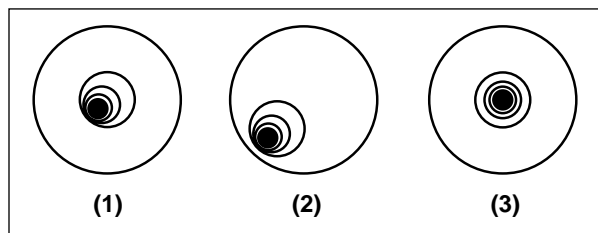

Fig. 21: Defocused star images.
- a. The only adjustments possible, or necessary, on the LX90 are from the three screws (**Fig. 21**) located at the edge of the outer surface of the secondary mirror housing.
- b. While looking at the defocused star image, notice which direction the darker shadow is offset in the ring of light or notice which part of the ring is the thinnest (**1, Fig. 21**). Place your index finger in front of the telescope so that it touches one of the collimation set screws. You will see the shadow of your finger in the ring of light. Move your finger around the edge of the black plastic secondary mirror support until you see the shadow of the finger crossing the thinnest part of the ring of light. At this point, look at the front of the telescope where your finger is aiming. It will either be pointing directly at a set screw, or it will be between two set screws aiming at the set screw on the far side of the black plastic secondary mirror support. This is the set screw that you will adjust.
- c. Using the Arrow keys at the slowest slew speed, move the defocused image to the edge of the eyepiece field of view (**2, Fig. 21**), in the same direction as the darker shadow is offset in the ring of light.
- f. When you bring the image to center (**3, Fig. 21**), carefully examine the evenness of the ring of light (concentricity). If you find that the dark center is still off in the same direction, continue to make the adjustment in the original turning direction. If it is now off in the opposite direction, you have turned too far and you need to turn in the opposite direction. Always double check the image in the center of the field of the eyepiece.